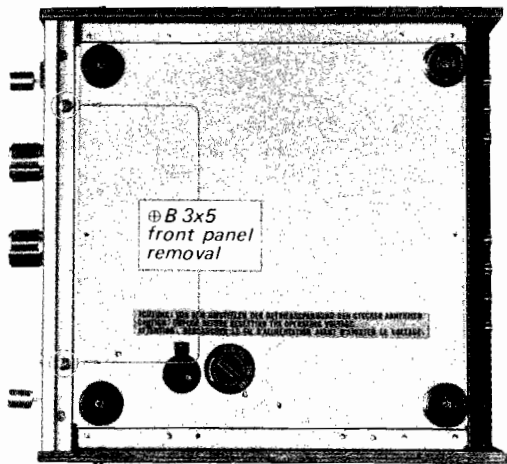

Fig. 2-2. Front panel removal
3. Remove the screws securing the front panel to the front subchassis as shown in Fig. 2-2 and 2-3. This frees the front panel.